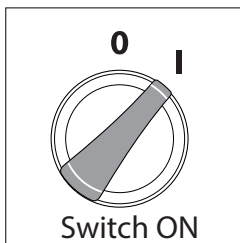
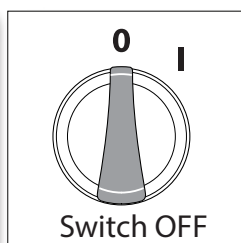

Fig. 11
Fig. 12
- Make sure the "ON/OFF" switch is in the "OFF" position. The power switch has international symbols for 'on' and 'off': On (I) (Fig. 11) Off (O) (Fig. 12).